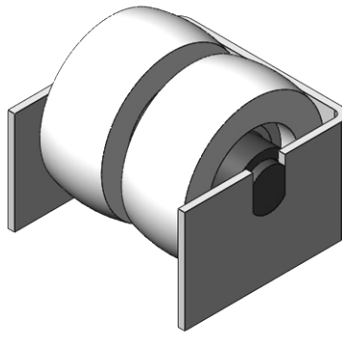

Fig. 4-4
- Remove all 24 idler wheels supporting the turntable rotation if there is excessive bearing play. If the diameter is less than 53mm or there is abnormal noise during operation, replace the bad contact rollers. (See Fig. 4-4)